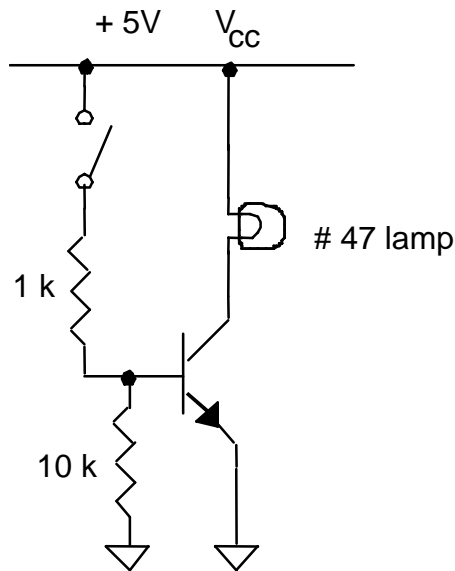

Figure 4-9. Cold switching
- \* Using the + 5 Volt power supply that is built into your prototyping board, wire up an NPN transistor as a “cold switch”, as shown in Figure 4-9. The lamp is the “load” here. (The 10 k resistor is not essential-- it makes sure that the base is near ground potential when the switch is open.)